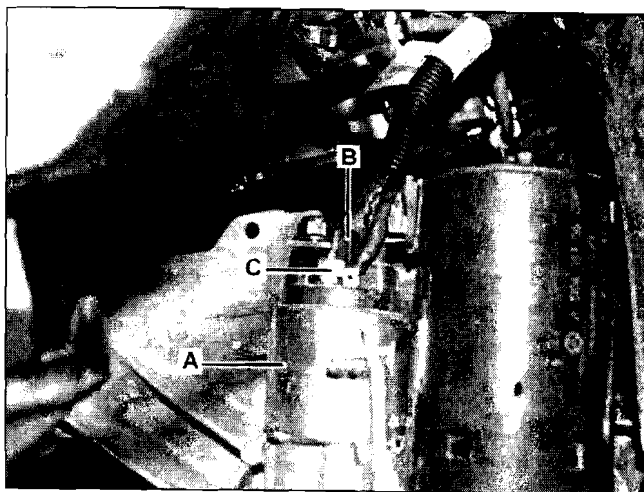

Figure 5
- Remove starter (A, Figure 5) from transmission bellhousing with wires still attached.
- Remove cap from electrical connection C30 bolt (B) and remove bolt; remove electrical connection C50 bolt (C).